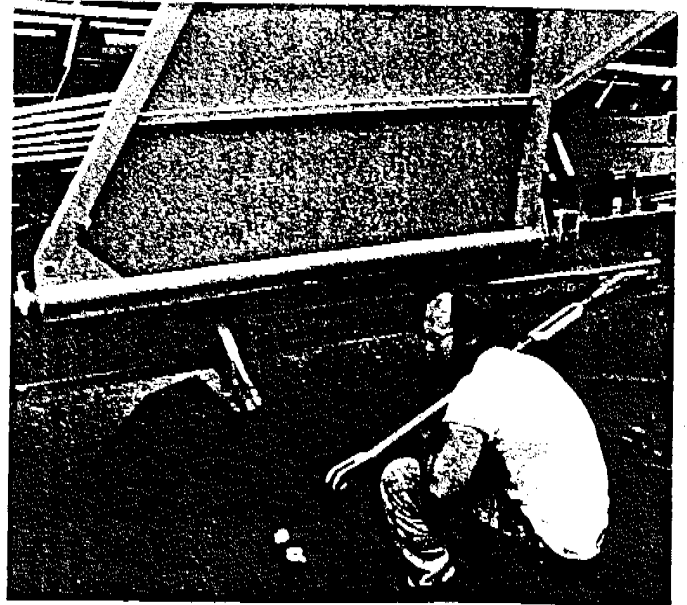

Fig. 12
- c. Remove the rear outriggers from the side of the main trailer frame. (Fig. 12)